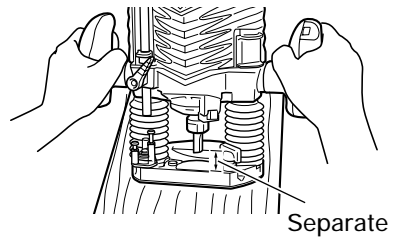

Fig. 14
- (1) As shown in Fig. 14, remove the bit from the work pieces and press the switch lever up to the ON position. Do not start cutting operation until the bit has reached full rotating speed.